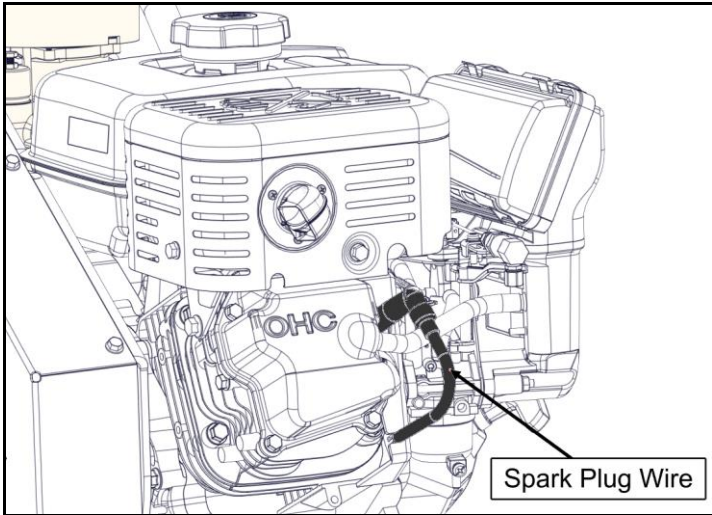

Figure 2 – Spark plug wire
- Disconnect the spark plug wire (Figure 2).